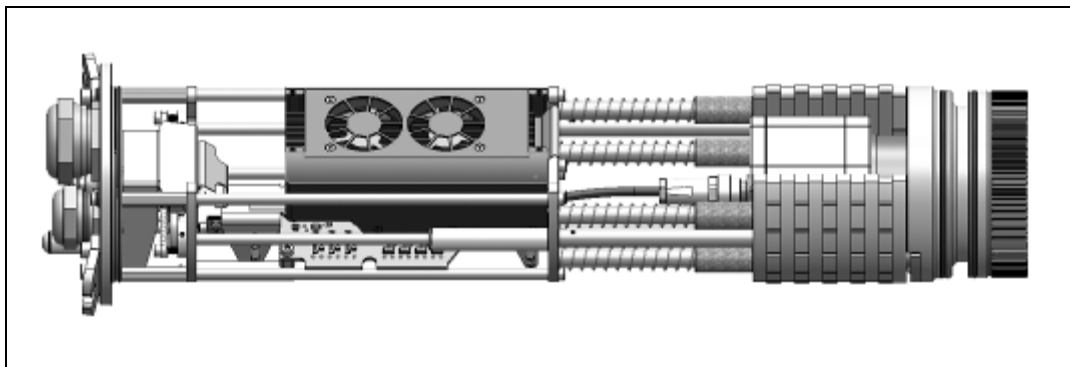

Figure 46: Chassis with PI camera, industrial PIF and PI Netbox
7. Then connect the PI camera and the PI Netbox with the provided USB cable and the Industrial PIF with the camera. Combine the network connector and the PI Netbox (**Figure 46**).